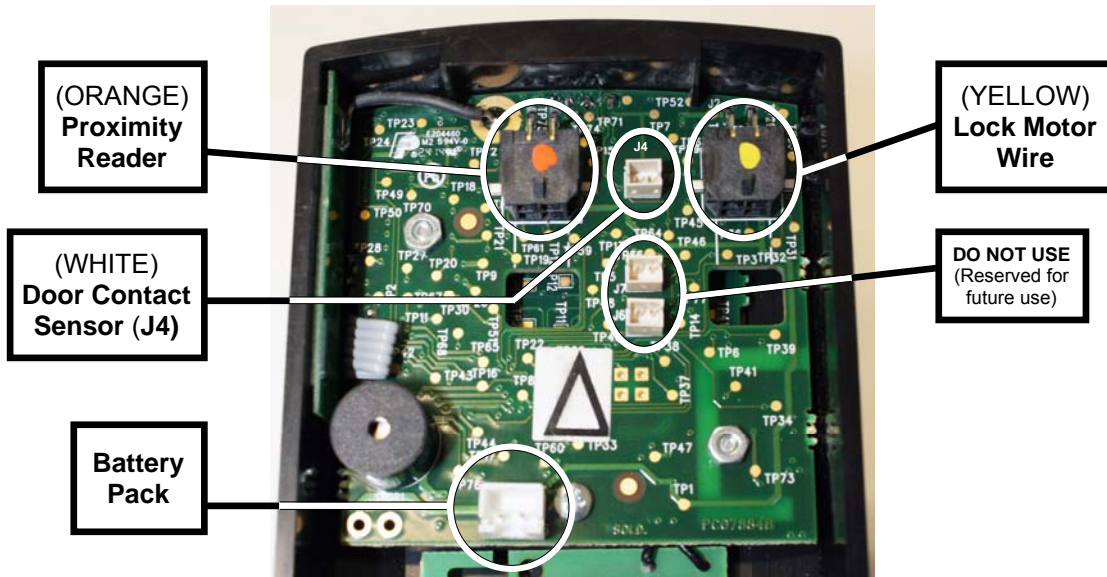

FIG. 17: CONTROL UNIT CONNECTIONS
Match the plug wire sleeve colors to the corresponding socket dot colors (see Fig. 17). **Note:** The rear of the **Surface-Mounted Networkx Control Unit** has five (5) sockets, *but only three (3) are used*.